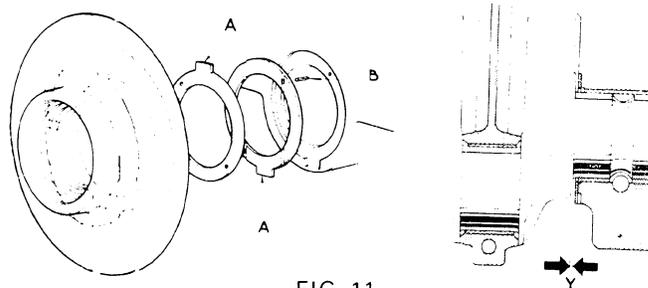

FIG. 11
**53. TO REPLACE CRANKSHAFT AND TIME ENGINE Fig.11**
- (d) When fitting new thrust washers, be sure that the grooved sides are away from the bearing housing and that the tongues (A) are located in their respective recesses. Fit new pins (B).
- (e) Before completing the assembly, check the end float (Y) and if excessive fit new thrust washers (see Technical Data).